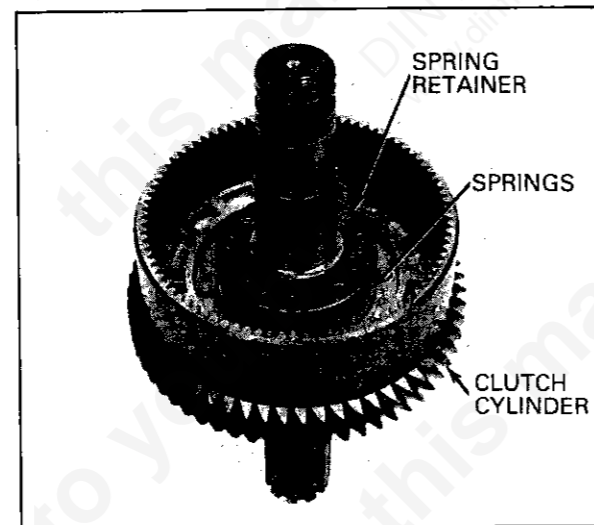

FIG. 23 SPRING RETAINER INSTALLATION
18. Place the spring retainer over the spring and retainer assembly (Fig. 23).